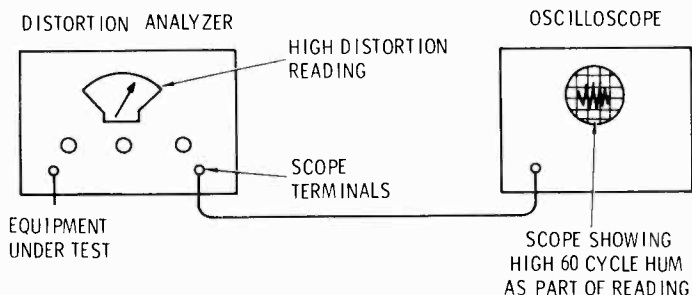

Fig. 11-18. The proper setup of the oscilloscope to the "scope" terminals of the audio distortion analyzer. The scope will show what is present in the reading.
5. The scope can be a very useful instrument when making audio measurements, once you have become efficient in its use. When making noise and distortion measurements, plug the scope into the scope terminals of the distortion analyzer (Fig. 11-18). Most modern analyzers use the null method when checking distortion; the fundamental is nulled out and everything left over is read as distortion. This reading may include harmonic distortion, 60- and 120-cycle hum, tube noise, extraneous noise, etc., but there is no way of determining which.